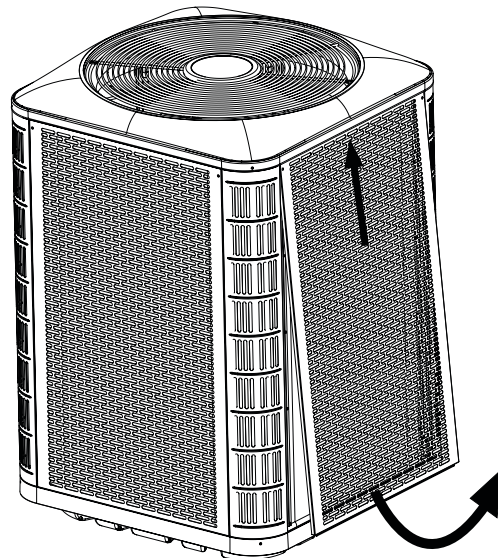

Figure 2. Panel Removal
2. Slide the panel up towards the top pan in order to clear the bottom flange from the base pan. See Figure 2.